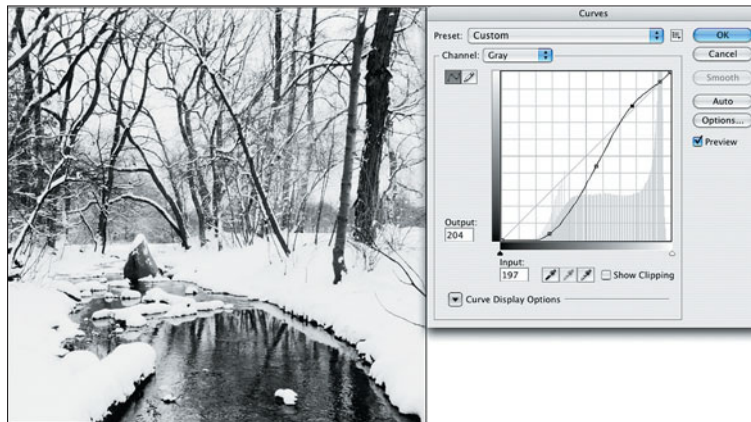

Figure 7.31 I create a new Curves adjustment layer to address the foreground water area.
3. Create localized edits using adjustment layers and the Brush tool (see Figures 7.31 to 7.41).
The curve in Figure 7.31 significantly increases contrast and draws attention to the reflections in the water. The rest of the image obviously receives too much contrast, so this edit must be applied selectively.